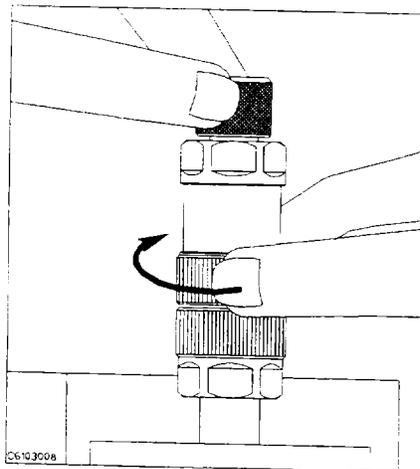

Figure 3-11.
16. Connect the low-loss capacitor to the APC-7[®] connector as shown in Figure 3-11.